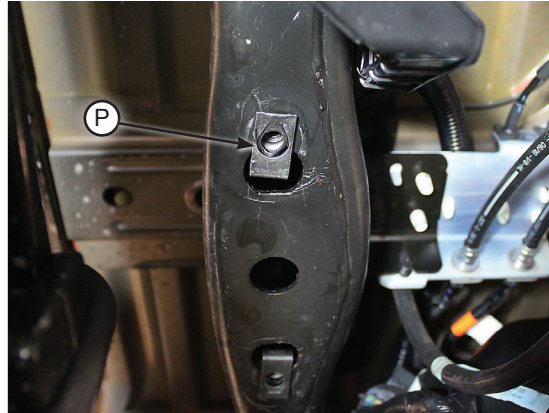

Fig. 5
4. Install the universal nuts (P) into the frame rail, lining up the holes in the frame and the threads in the nuts so that a bolt can be installed (Fig. 5). **TECH TIP:** a flat-tip screwdriver works well in prying the universal nut into position.